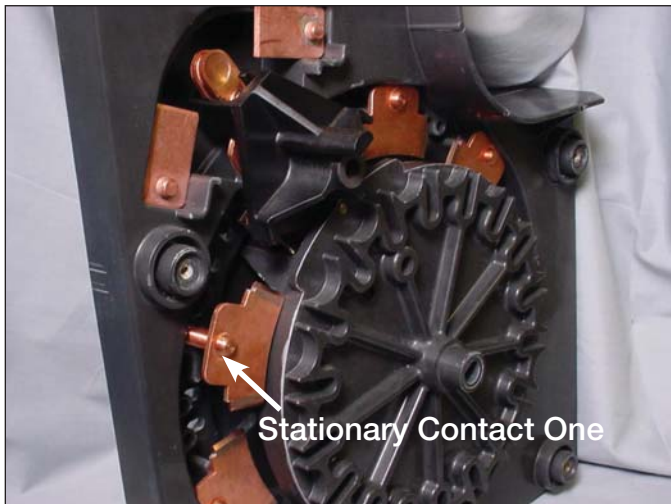

Figure 29.
16. Replace the number 1 stationary contact by inserting the contact stud into the contact-mounting hole in the contact panel. The contact position number is located on the contact panel. See Figure 29.